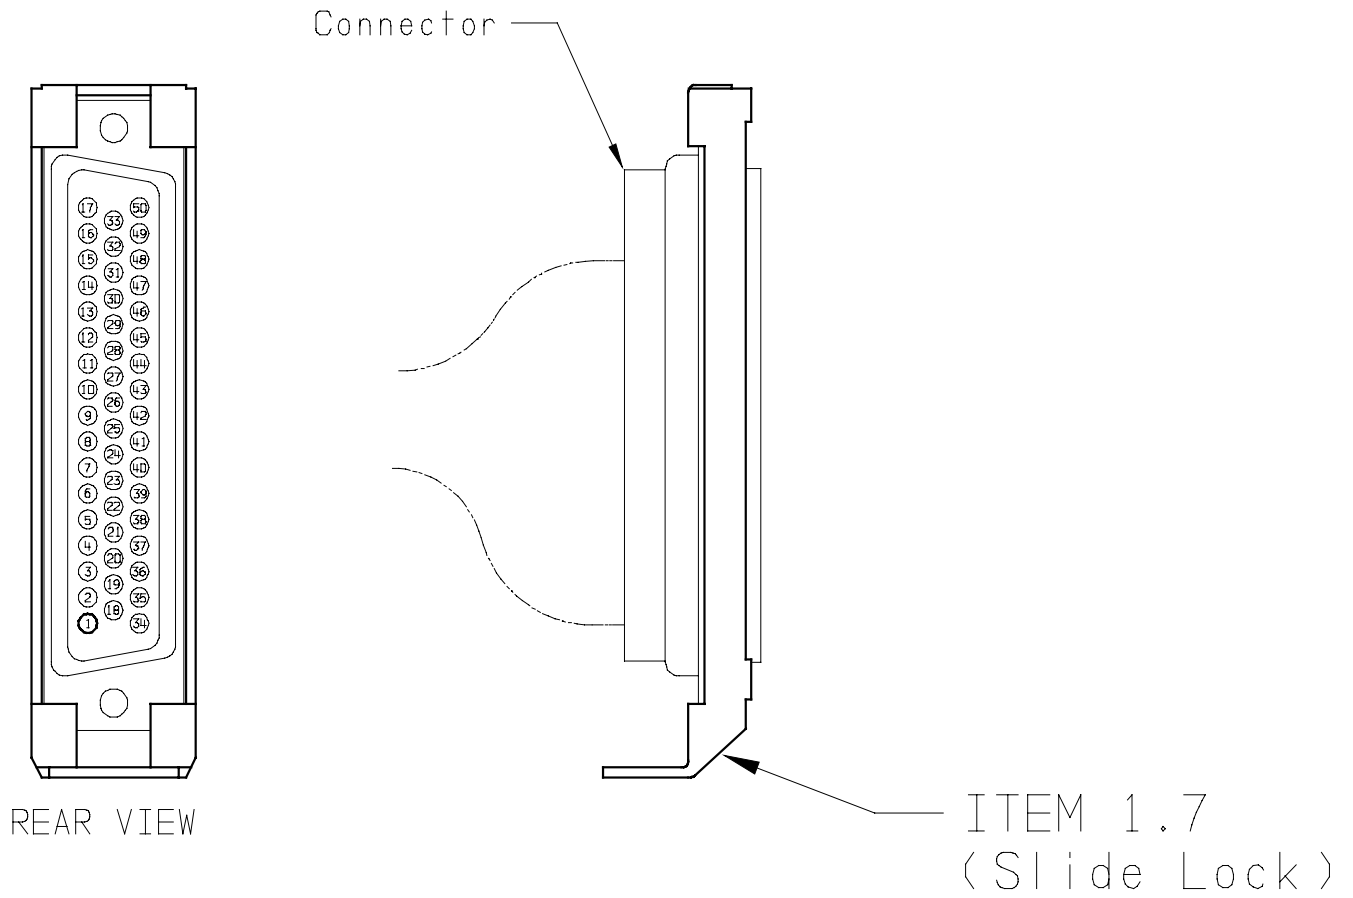

FIGURE 2-1.3 MK XXII EGPWS CONFIGURATION MODULE
STEP 3 Position item 1.7 (Slide lock) onto wired connector as shown in figure 2-1.3 below: